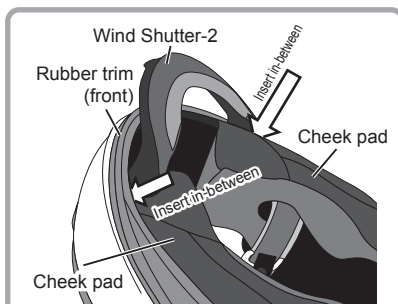

Fig.2
- ② As shown in Fig. 2, turn the helmet over and attach the Wind Shutter-2 on the front (chin area) of the helmet. In doing this, insert the interlining of both sides of the Wind Shutter-2 in-between the front area of the cheek pad and the rubber trim.